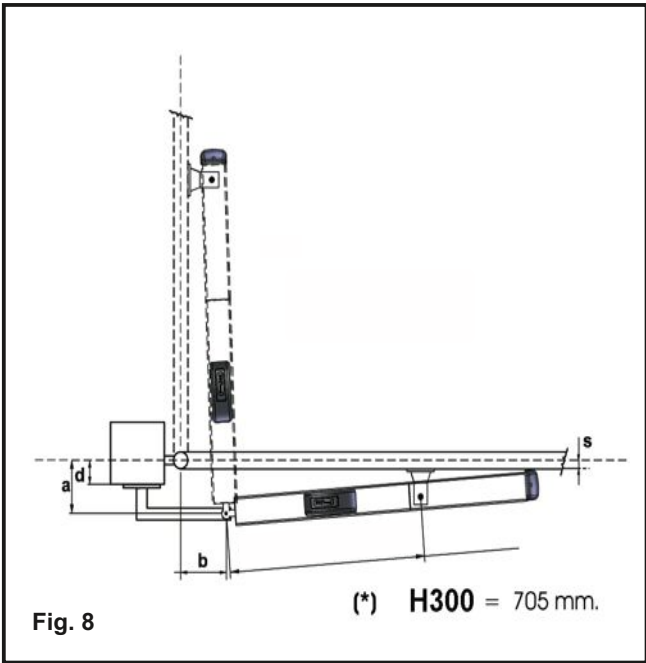

Fig. 8
3.3. SPECIAL INSTALLING FOR HYDRAULIC OPERATOR WITH OPENING GATE OUT (Fig. 8)